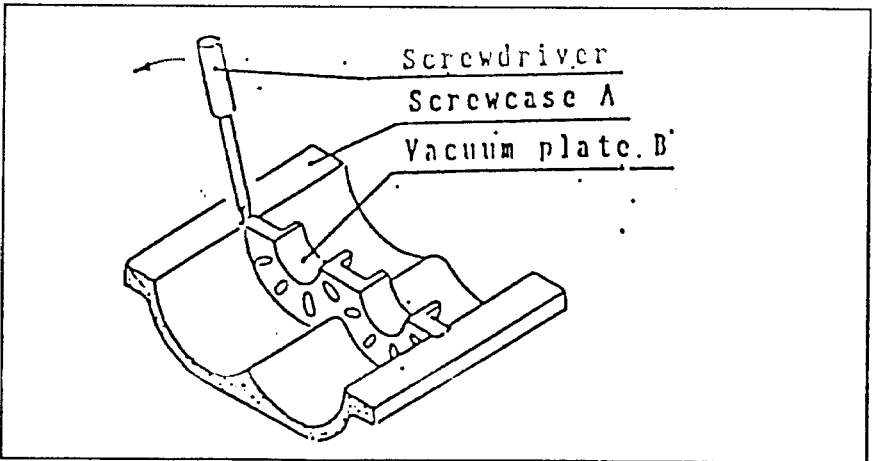

fig. 7
8. Lift screws A and B (parts #4 and #5) and remove vacuum plate B (part #10) (fig 7).